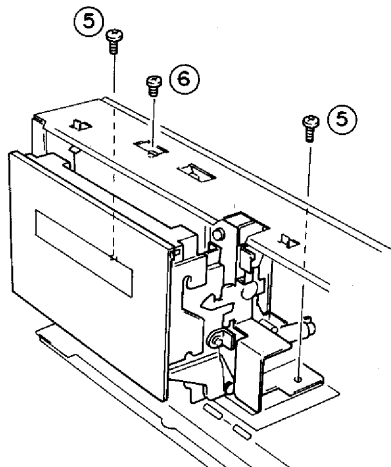

Fig. 2
a. Remove the 3 screws (⑤, ⑥) in fig. 2.